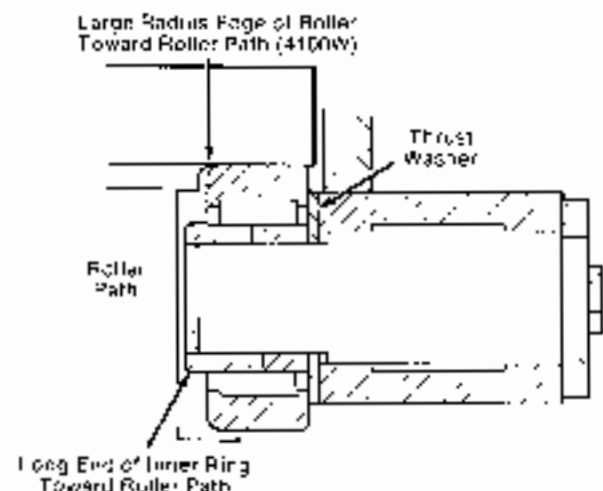

Figure 3 Hook Roller without Snap Ring (SC135, 2900W, 29011, 4000W, SC200, 4100W)
5. Models SC135, 3900W, 39011, 4000W, SC200, 4100W — **Bearing-type hook rollers without a snap ring** (see Figure 3) must have the long end of the inner rings toward the roller path and, on the 4100W, the large radius edge of the rollers toward the roller path.